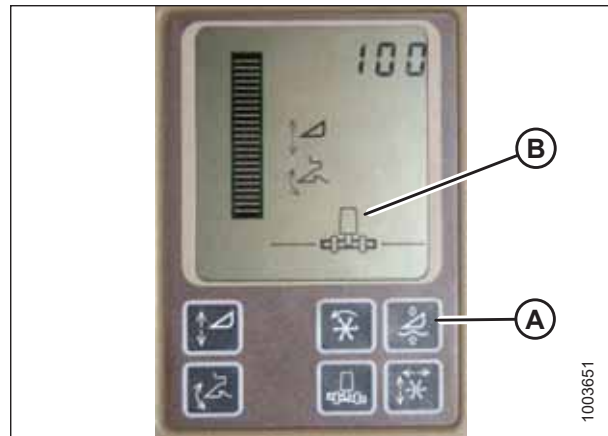

Figure 7.262: John Deere Combine Display
Do **NOT** use the active header float function (A) in combination with the MacDon auto header height control (AHHC)—the two systems will counteract one another. Header symbol (B) on the display should **NOT** have a wavy line under it and should appear exactly as shown on the Active Header Control Display in Figure 7.262, page 300.